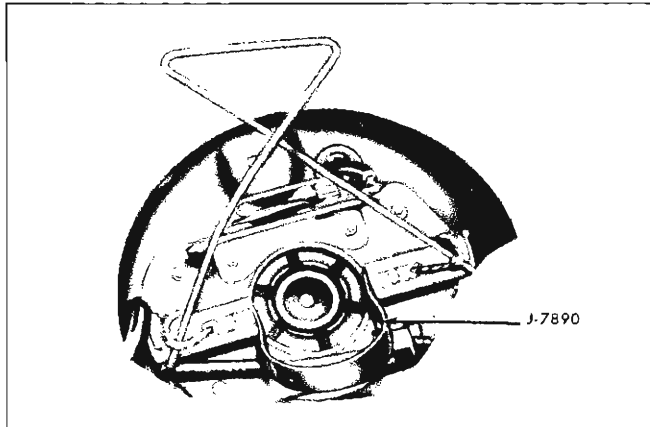

Fig. 62—Retaining Armature Brushes
5. To separate armature from case while still retaining the brush springs and brushes in place fashion a spring similar to that shown in Figure 62 and insert behind the brush leads as shown.
- Inspect both the field and armature for damage due to overheating such as unsoldered electrical connections. Check that brush leads are firmly attached both to the brushes and their connections at the brush holders. Check brushes for wear. If brushes are worn to within 3/16" of brush lead, or pigtail, they should be replaced. Check contacts of circuit breaker shown at top of Figure 62. Clean as required or file lightly to remove irregularities.
- c. To reinstall brushes in holders, compress spring within holder and hold fully compressed with a thin instrument inserted through slot in brush holder, hold brush tightly, and remove instrument retaining spring. Hold brushes installed with retaining Tool J-7890 as shown in Figure 62.